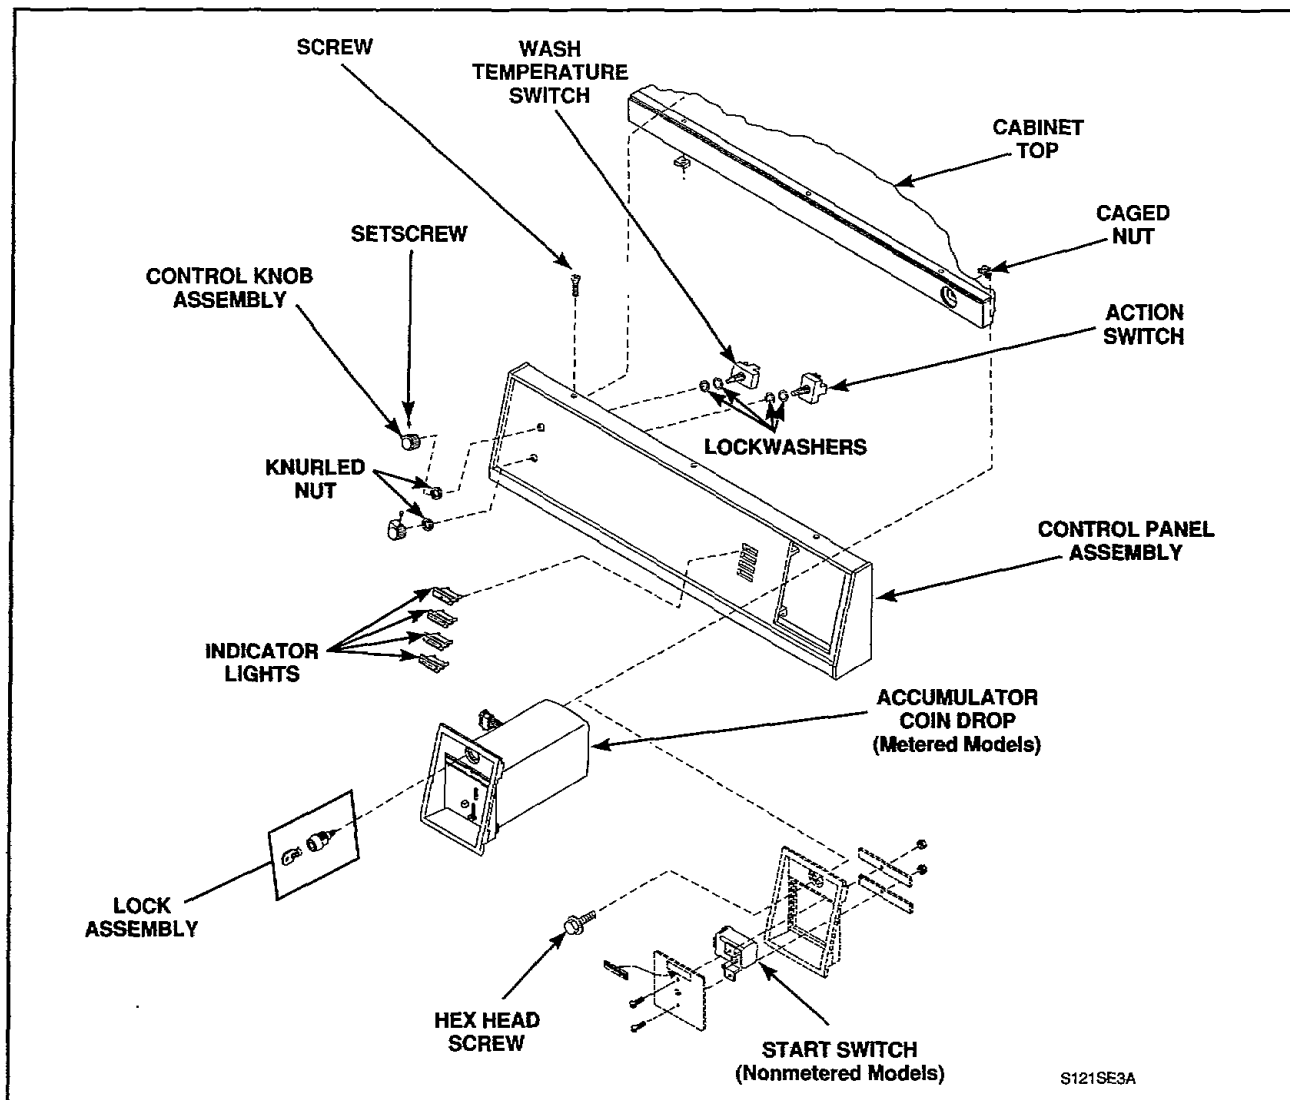

Figure 4
- a. **METERED MODELS** — Unlock accumulator coin drop and pull out of washer as far as wires will permit, *Figure 4*.
NONMETERED MODELS — Remove the hex head screw and pull start switch out of washer as far as wires will permit, *Figure 4*.
- c. Remove the three screws holding control panel assembly to cabinet top, *Figure 4*.
- e. Disconnect wires from each indicator light, compress the locking tabs and push each light out through front of control panel, *Figure 4*.
- g. Loosen setscrew holding switch knobs to the switch shafts and remove knobs, *Figure 4*.
- h. Remove knurled nuts holding switches to the control panel assembly and remove switches, *Figure 4*.
IMPORTANT: When reinstalling switch, two lockwashers must be between each switch and the backside of the control panel for grounding purposes, *Figure 4*.
- h. Reassemble controls onto control panel, *Figure 4*.